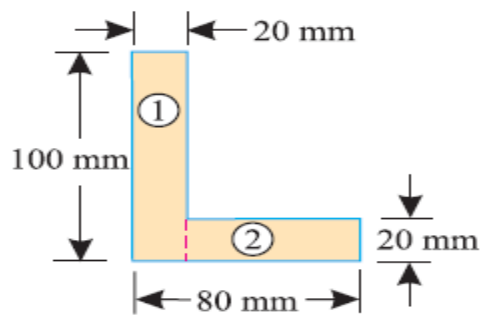

Fig.25
9. Find the moment of inertia about the centroidal X-X and Y-Y axes of the angle section shown in Fig.25